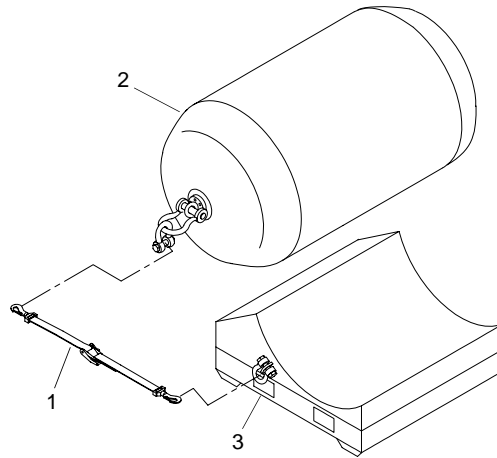

Figure 23. 5 ft by 10 ft Fender and Pallet
14. Remove two tie down straps (figure 23, item 1) securing 5 ft by 10 ft fender (figure 23, item 2) to pallet (figure 23, item 3).
15. Using crane, slings and shackles lift fender (figure 23, item 2) and position on FC pierhead.